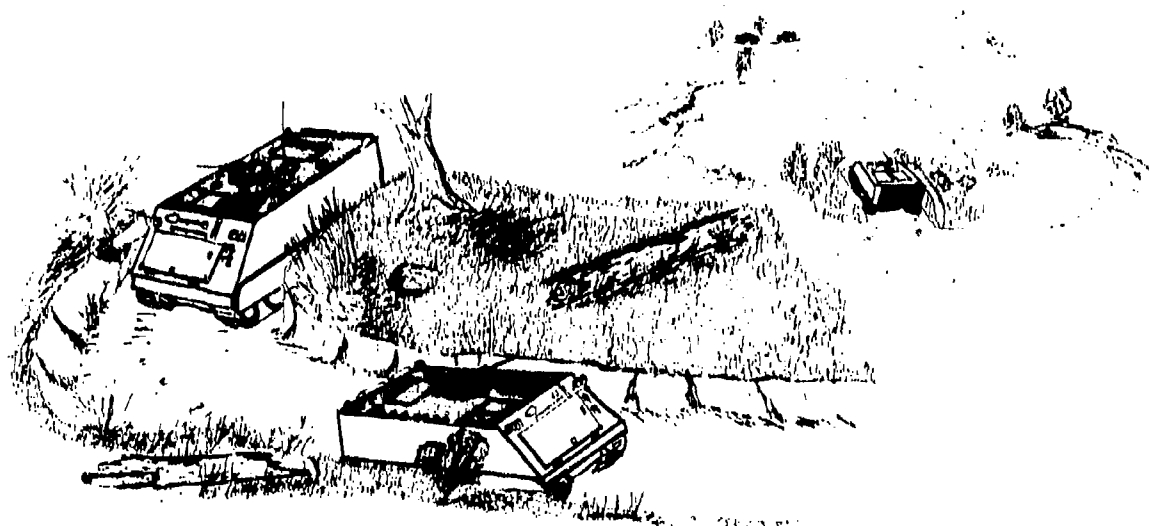

FIGURE 16. PROTECTION OF ARMORED VEHICLES.
--"Dig in armored vehicles." Digging in your armored vehicles (hull defilade) or placing them in trenches or cuts in roadways provides some limited line-of-sight radiation protection and considerable blast protection. A hull-down fighting position or trench covering over half of the sides of the vehicle can reduce the gamma radiation by as much as a factor of two (see figure 16).